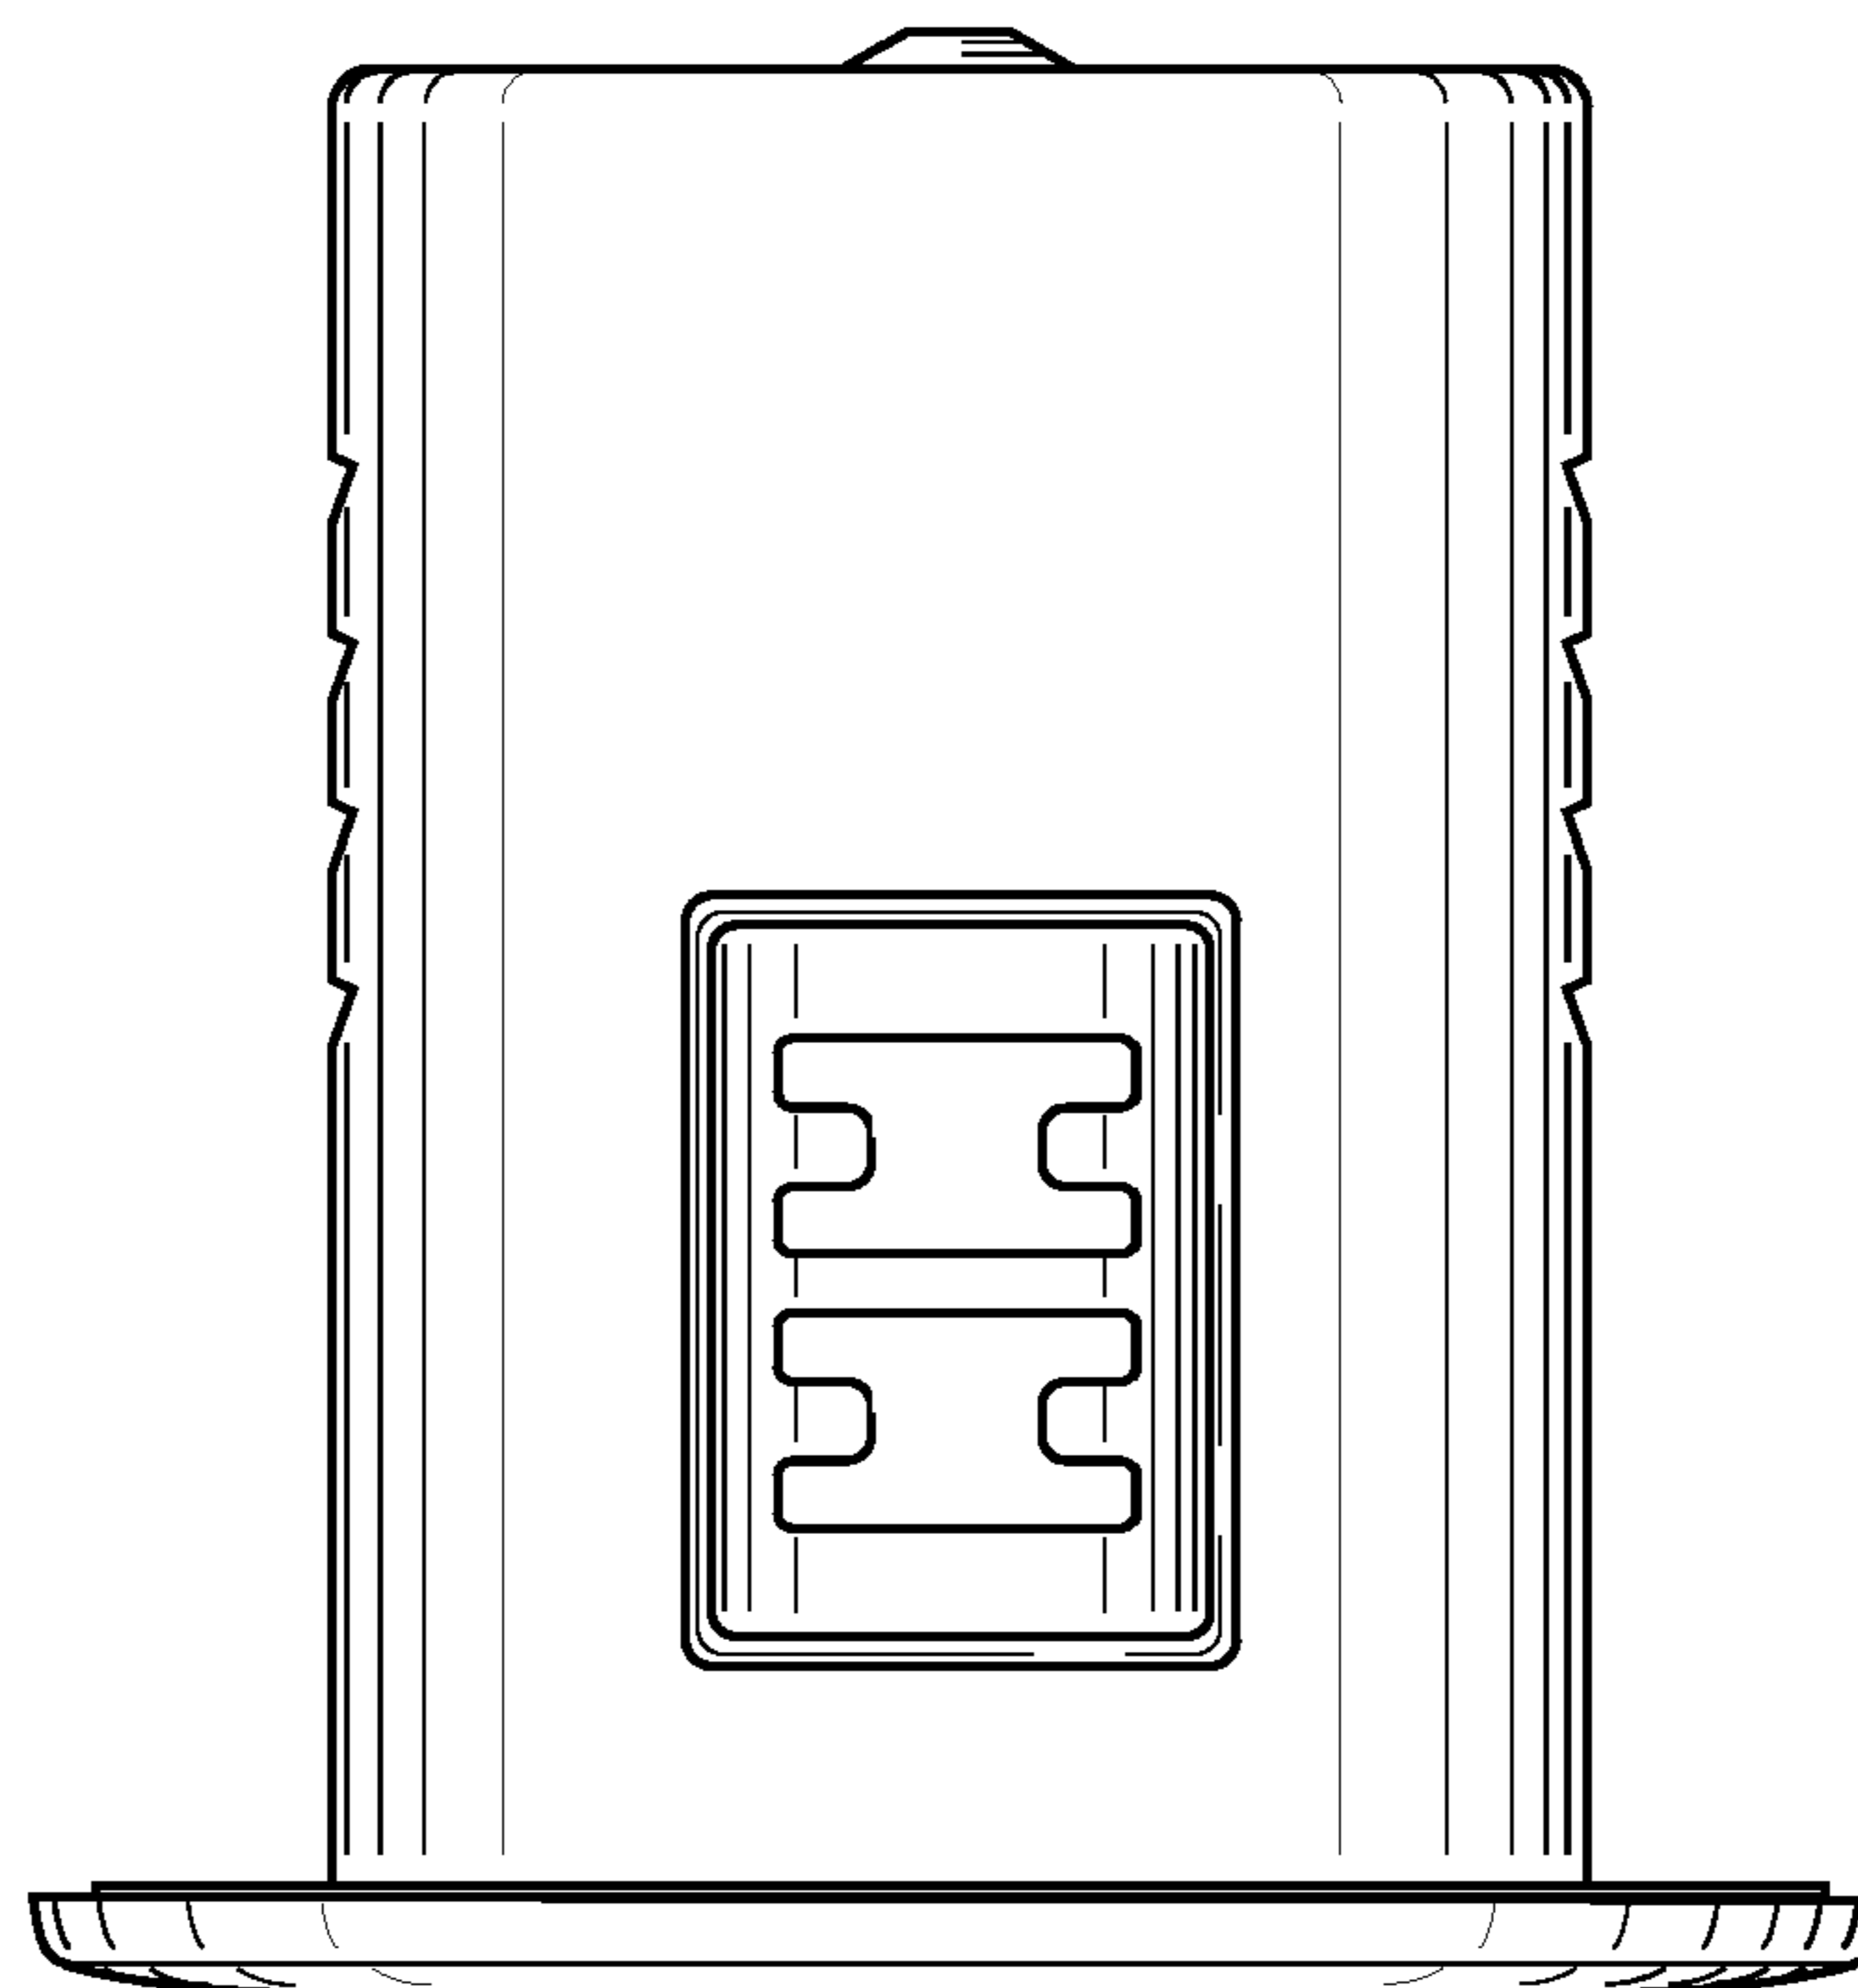

FIG. 5
- FIG. 5 is an isometric view, from the bottom and one side, showing the lighting fixture;